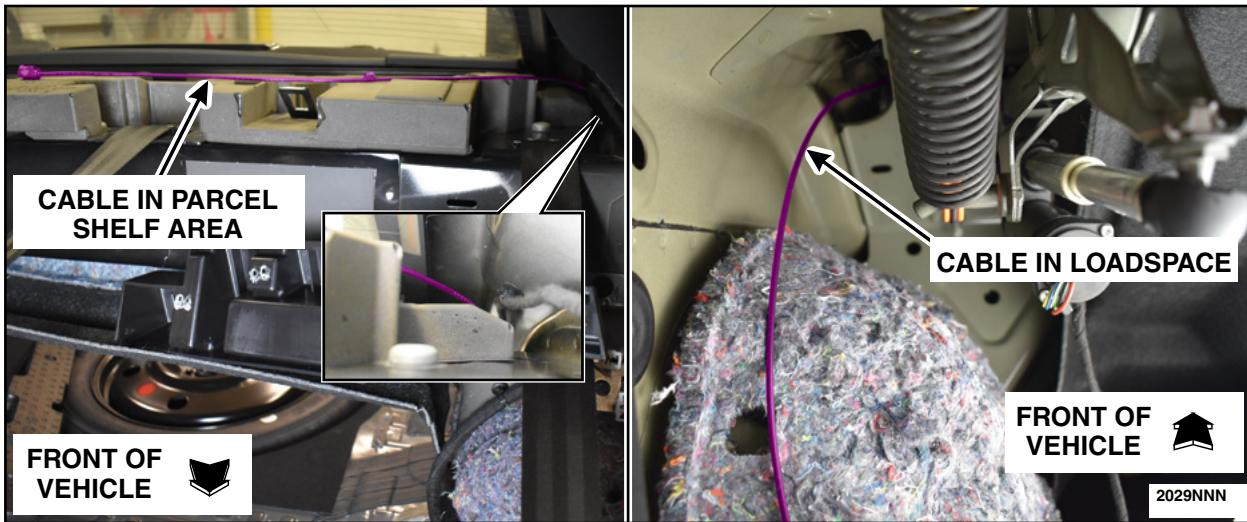

FIGURE 3
4. Route the coaxial extension cable from the center of the parcel shelf area through the hole in the LH side of the parcel shelf area into the loadspace of the vehicle. See Figure 3.